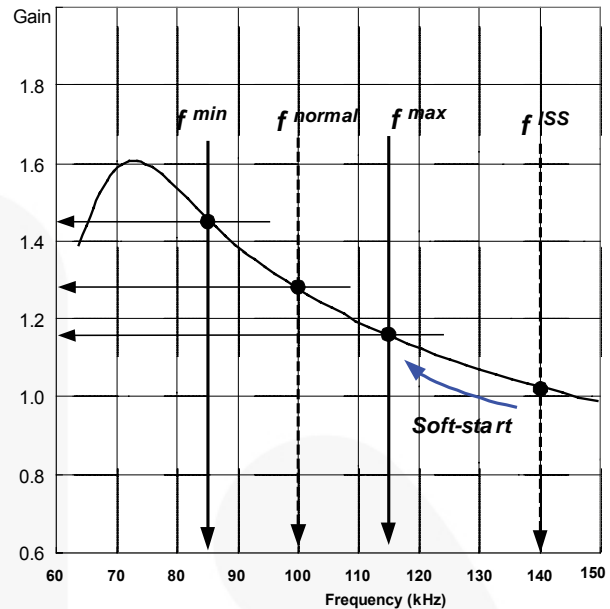
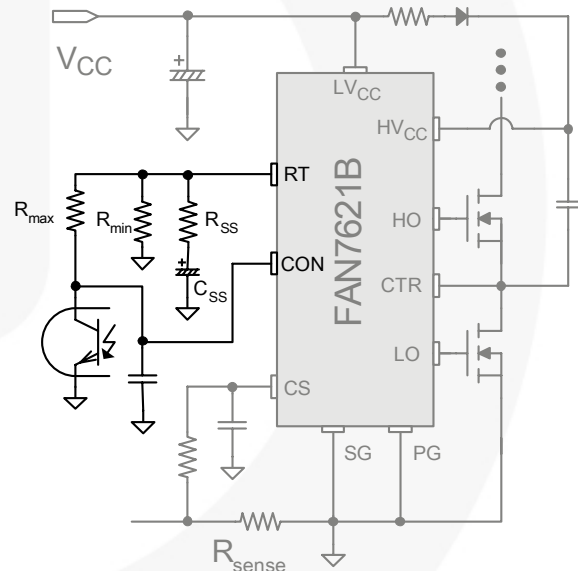

Figure 18. Resonant Converter Typical Gain Curve
Figure 19. Frequency Control Circuit
**3. Frequency Setting:** Figure 18 shows the typical voltage gain curve of a resonant converter, where the gain is inversely proportional to the switching frequency in the ZVS region. The output voltage can be regulated by modulating the switching frequency. Figure 19 shows the typical circuit configuration for  $R_T$  pin, where the opto-coupler transistor is connected to the  $R_T$  pin to modulate the switching frequency.
proportional to the switching frequency, the soft-start is implemented by sweeping down the switching frequency from an initial high frequency ( $f^{ISS}$ ) until the output voltage is established. The soft-start circuit is made by connecting R-C series network on the  $R_T$  pin, as shown in Figure 19. FAN7621B also has an internal soft-start for 3ms to reduce the current overshoot during the initial cycles, which adds 40kHz to the initial frequency of the external soft-start circuit, as shown in Figure 20. The initial frequency of the soft-start is given as: